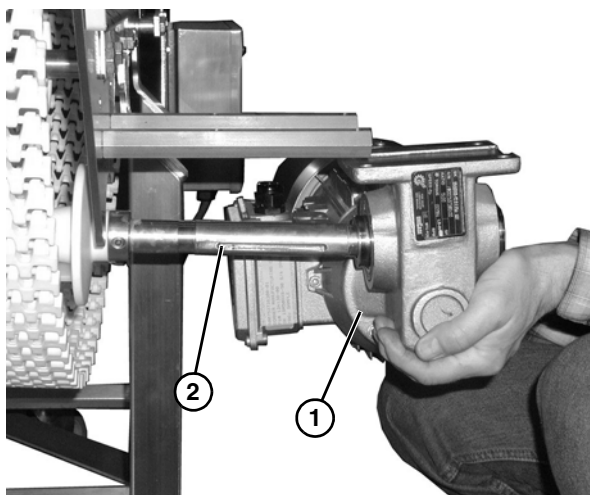

Figure 18
3. Slide the gearmotor assembly (**Figure 18, item 1**) onto the drive spindle (**Figure 18, item 2**).